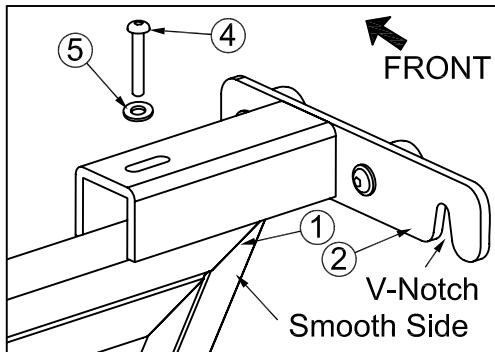

Fig. 1
3. Attach the Right Hand Mounting Bracket (#2) to the assembly with one Allen Head Bolt (#4) and one Flat Washer (#5). Do not tighten. (See Fig. 1)